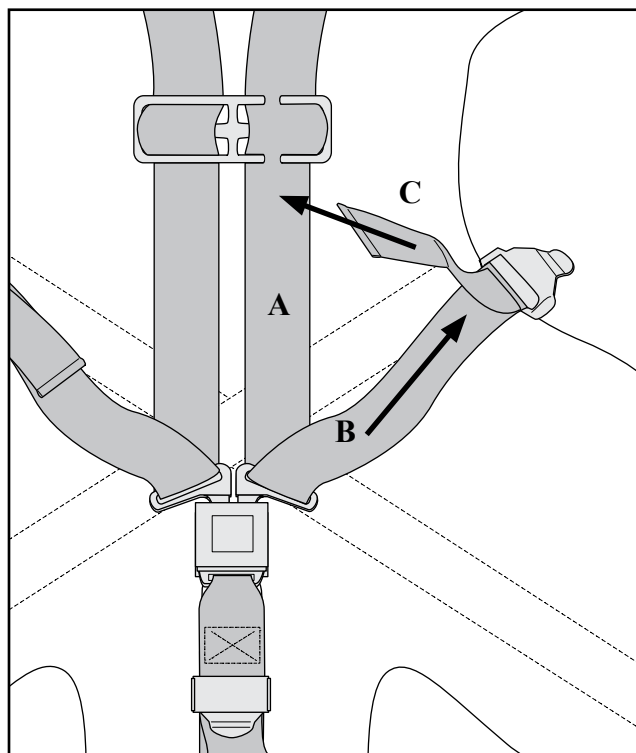

Figure 6 - Fastening a Shoulder Strap
5. To snug the shoulder/torso straps, refer to Figure 6 and use the following procedure:
- Snug the shoulder strap (A) against the shoulder and chest by pulling section B of the strap with one hand while steadying the central buckle with the other hand.
- Snug the torso strap (B) by pulling on section C with one hand while steadying the central buckle with the other hand.